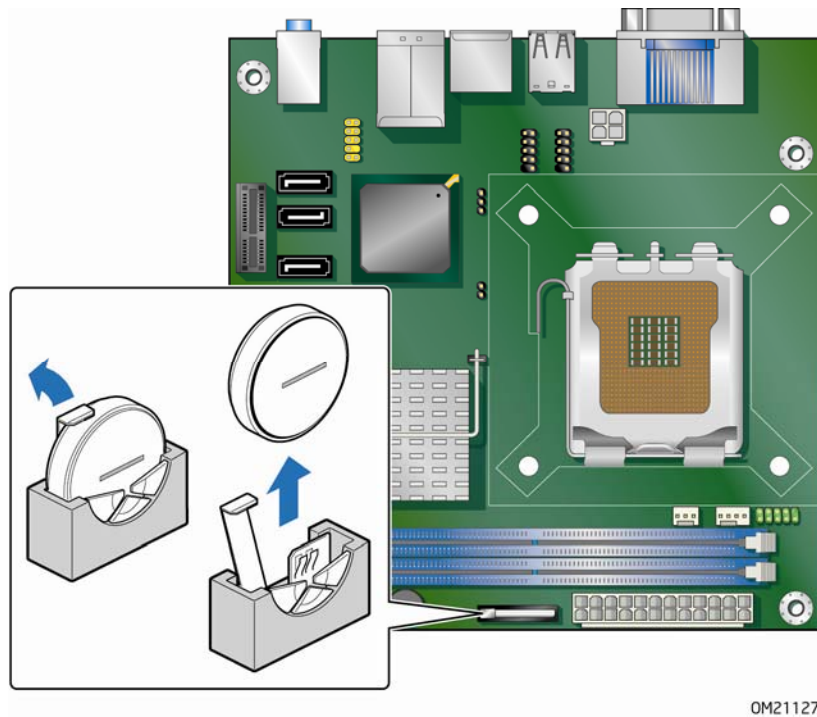

Figure 23. Removing the Battery
When the voltage drops below a certain level, the BIOS Setup program settings stored in CMOS RAM (for example, the date and time) might not be accurate. Replace the battery with an equivalent one. Figure 23 on page 57 shows the location of the battery.
4. Locate the battery on the board (see Figure 23).
5. Push the battery retention clip aside and remove the battery from the connector as shown in Figure 23. Note the orientation of the "+" and "-" on the battery.